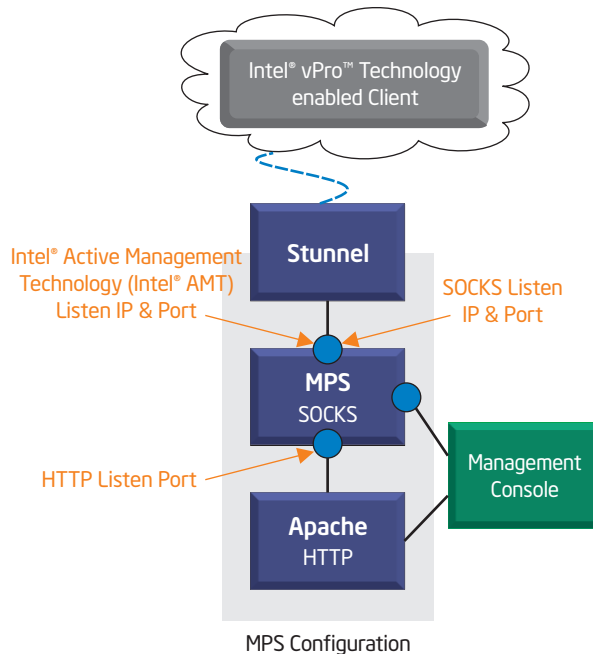

Figure 7. MPS Configuration
**MPS installation (Figure 7)**